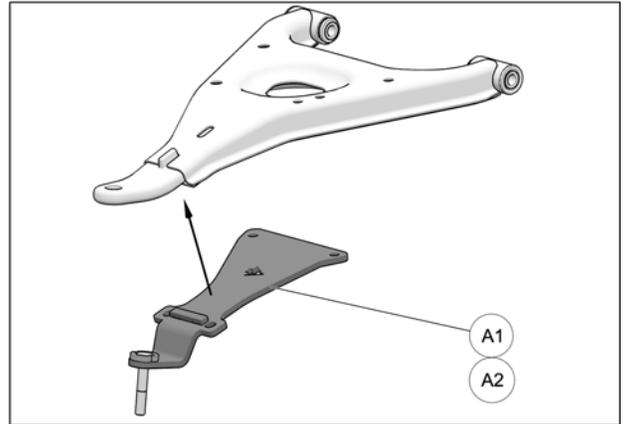

Fig. 25
14. Position bottom part of anchor bracket (A1-A2) assembly under front lower suspension arm, as shown in the figure below. See Fig. 25